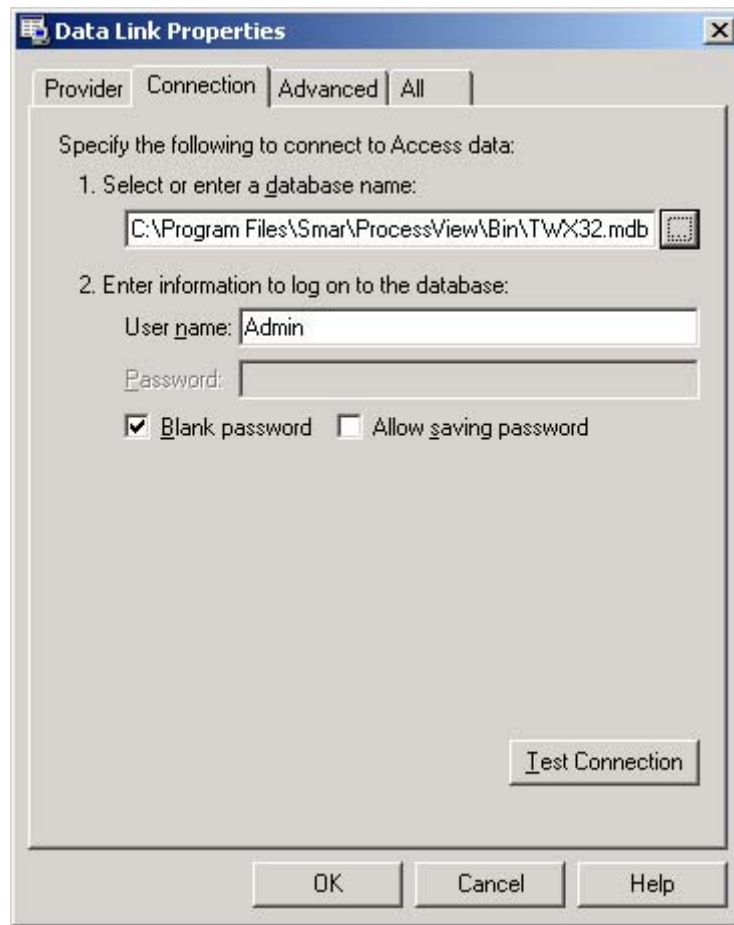

Figure A.5. Specifying a Data Source
3. Click the **Build Connection String** button. This opens the Microsoft **Data Link Properties** dialog box, as shown in **Figure A.5**.